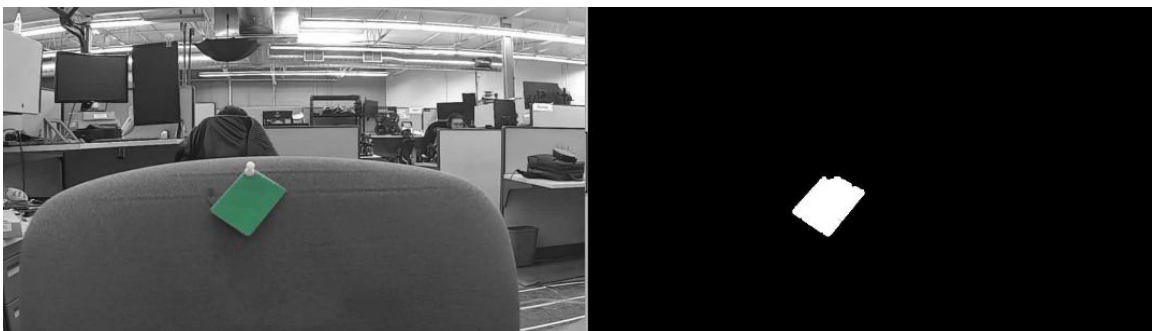

Figure 4. Highlight Selected Color
10. Zoom and pan to Section 4 of the model, Flip Manual Switch (**MS D**) and observe how the Image Processing Video Display highlights the detected object as shown in Figure 4. What logical operations are being performed in this section?